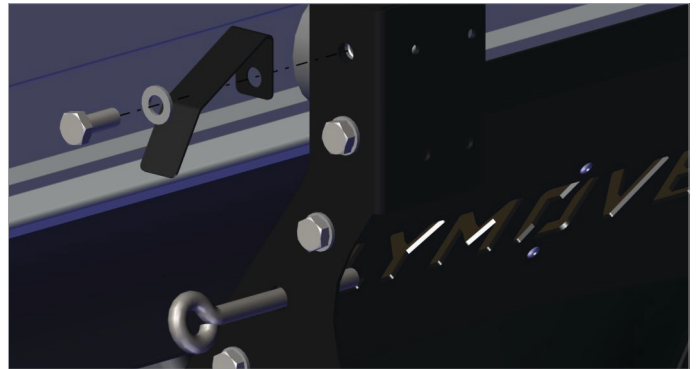

Fig. 6.3.3 Mounting the start/stop bracket on the crab.
- Mount the start/stop bracket to the crab using ..... Refer to fig. 6.3.3.